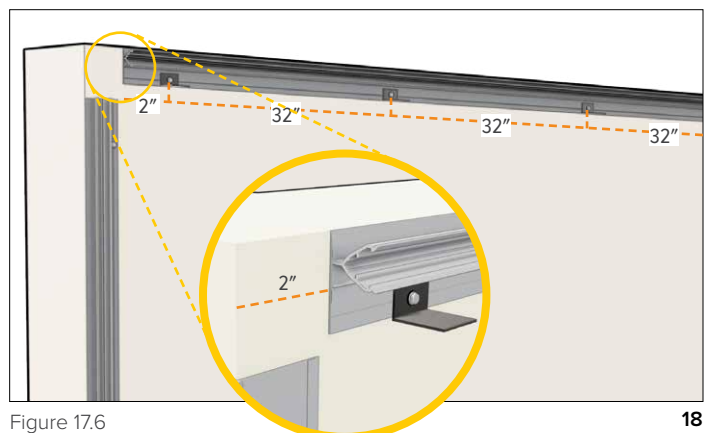

Figure 17.6
11. At the top of the wall run a two piece J back plate horizontally keeping it back 2" at ends and secure it by placing fasteners through the Plank Backers into the starter J fastener line at 32" o.c. and no further than 2" from the ends. The backers will hold the top edge of the last Plank flush to the main surface later in the process. (Figure 17.6)